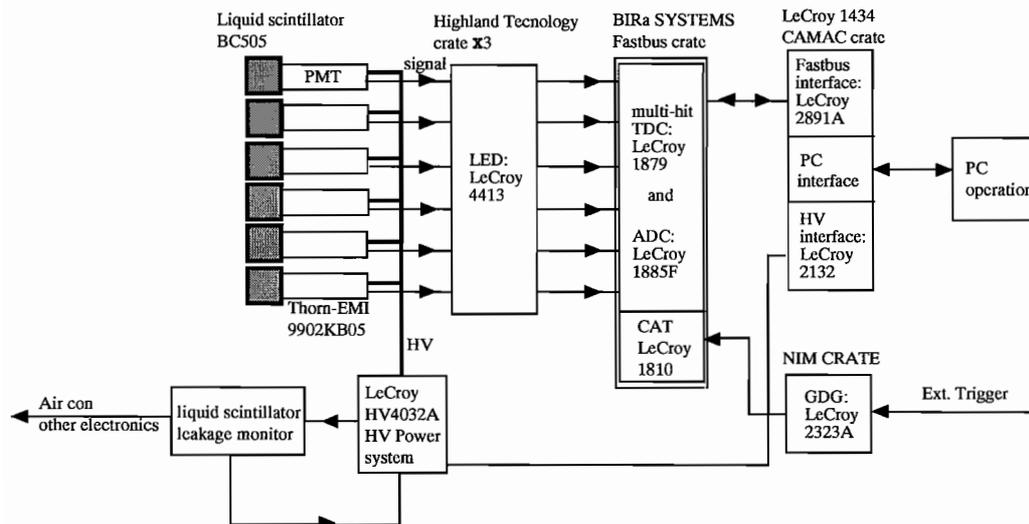

Figure A.1: Neutron detection system chart diagram.
Figure A.1 shows the flow chart of the system.
As described in Figure A.1, the system uses external trigger as its clock. The system uses 4 different timing signal divided from the trigger: (1) for Scaler as a software trigger, (2) for TDC stop delay, (3) for ADC gate delay, and (4) for ADC gate width. The accurate timing for these has to be measured before the each experiment. The general guidelines are
- (1) : The software will start reading the data immediately after getting a trigger from the Scaler independently of the fastbus status. Therefore enough delay time should be chosen, e.g. 5 μ sec. The pulse width should be over 50 nsec. for the safety detection of the trigger.
- (2) : The maximum time window of TDC is only about 1 μ sec. The accuracy of the delay time should be within 50 nsec. The pulse width must be over 100 nsec. from TDC requirement. Note TDC stop stops the acquisition cycle, therefore the stop pulse must be generated after neutron signals will be detected at TDC.
- (3) and (4) : ADC will open its gate according the input pulse width in gate input on 1810 CAT. ADC gate delay is used to delay the start timing of ADC gate pulse in the system.